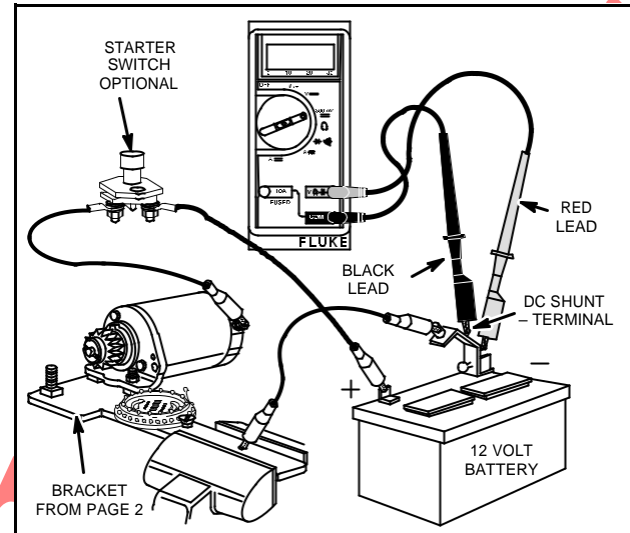

Fig. 696 – TESTING 12 VOLT STARTER MOTOR
- Connect the starter motor, battery and meter as shown in Fig. 696.